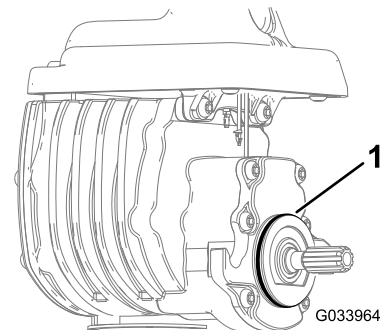

Figure 5
3. Install the O-ring on the reel motor (Figure 5).